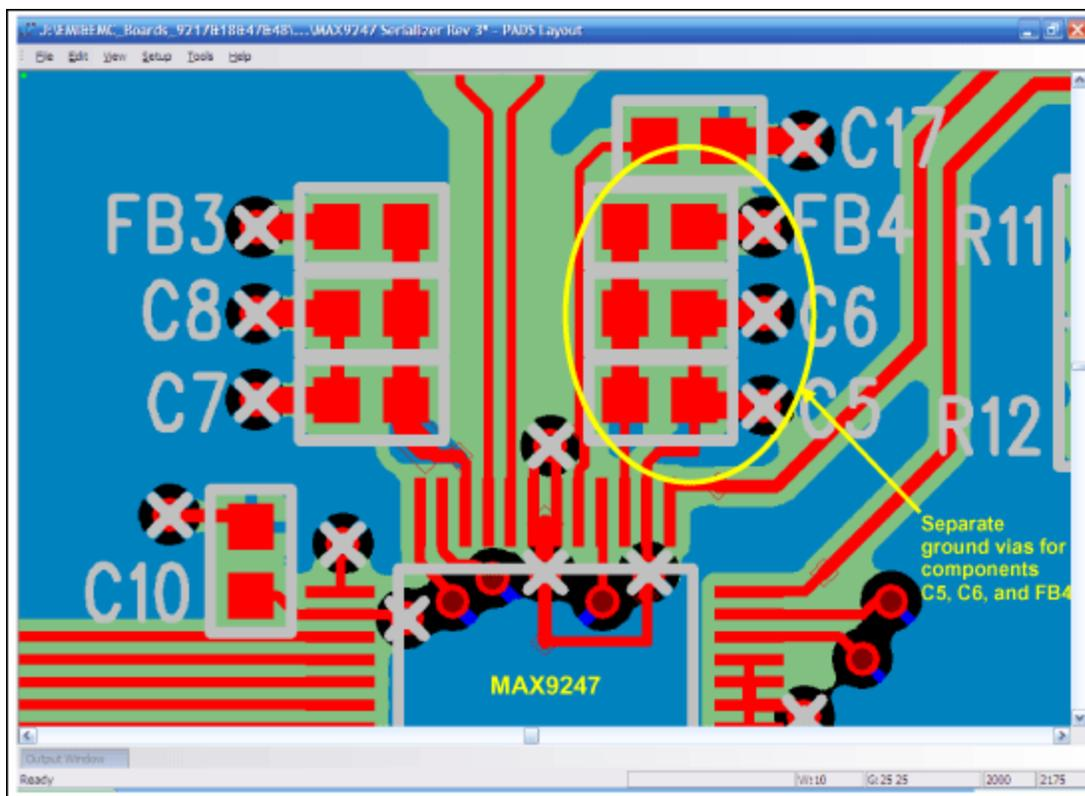

Figure 1. Recommended bypassing and grounding details for the MAX9247 serializer.
**Figure 1** depicts a close-up of a PCB layout using the MAX9247 serializer. The components of interest
are FB4, C6, and C5, which are arranged in a column with their silkscreen reference designators located just to the right of the respective component outline. Along the bottom of Figure 1 is one corner of the MAX9247. FB4 has its right-side terminal connected through a via to an embedded ground plane. The left terminal of FB4 is wired down across C6 and C5, and then to pin 27 of the MAX9247, which is the serializer's  $V_{CCPLL}$  power-supply node. Note that the trace connecting FB4, C5, and C6 is kept wide to achieve a lower inductance. As this trace narrows in order to meet the pin pitch of the MAX9247, a small polygon of copper is used between C5 and the MAX9247 to keep the trace as wide as possible, yet as close as possible to the serializer. Furthermore, the grounding of C5 and C6 shows that each capacitor has its own via to the ground plane (to the right of each component). The top copper plane is flooded with ground, providing a direct, low-inductance path from C6 and C5 to pin 26 of the MAX9247, which is the serializer's PLLGND.